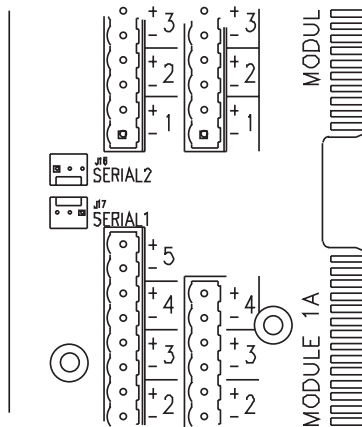

Figure 57: Serial plugs on the ER4 signal distribution board
7. Place the connector in the bottom Serial plug (Serial 1) on the signal distribution board. See Figure 57.